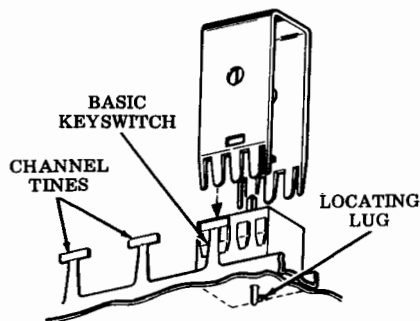

Fig. 11—Keyswitch Removal
- (c) Place 346257 tool over the keyswitch and press downward. When the tool bottoms and embossed projections snap into notches on keyswitch, squeeze and pull back on the tool to lift keyswitch out (Fig. 11).